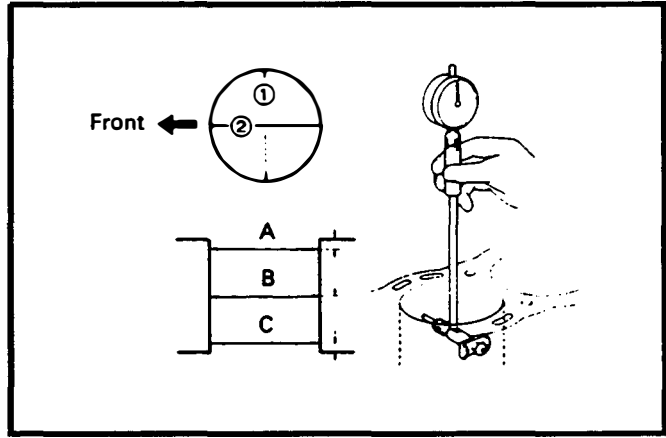

Figure 14.
12. Check the cylinder-to-piston clearance. Measure the cylinder bores in axial and thrust directions at the top, middle and bottom. See Figure 14.